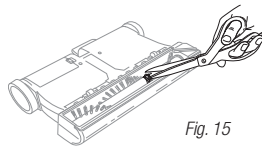

Fig. 15
- 3 Remove all hair, strings or fibers wrapped around the brush bar. Using a pair of scissors, carefully cut along the raised guide to remove anything wound around the brush bar. Avoid damaging or cutting the bristles. (fig. 15)